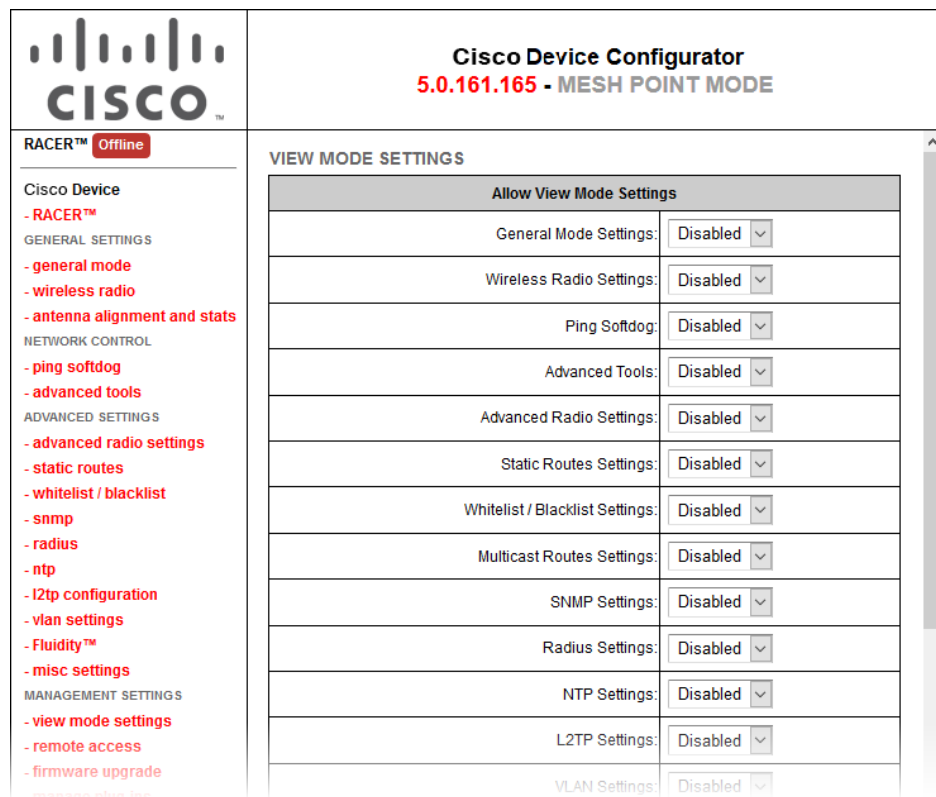

Figure 49. Configurator GUI (VIEW MODE SETTINGS dialog)
2. Click the **-view mode settings** link under **MANAGEMENT SETTINGS** in the left-hand settings menu (Figure 49 (page 93)).